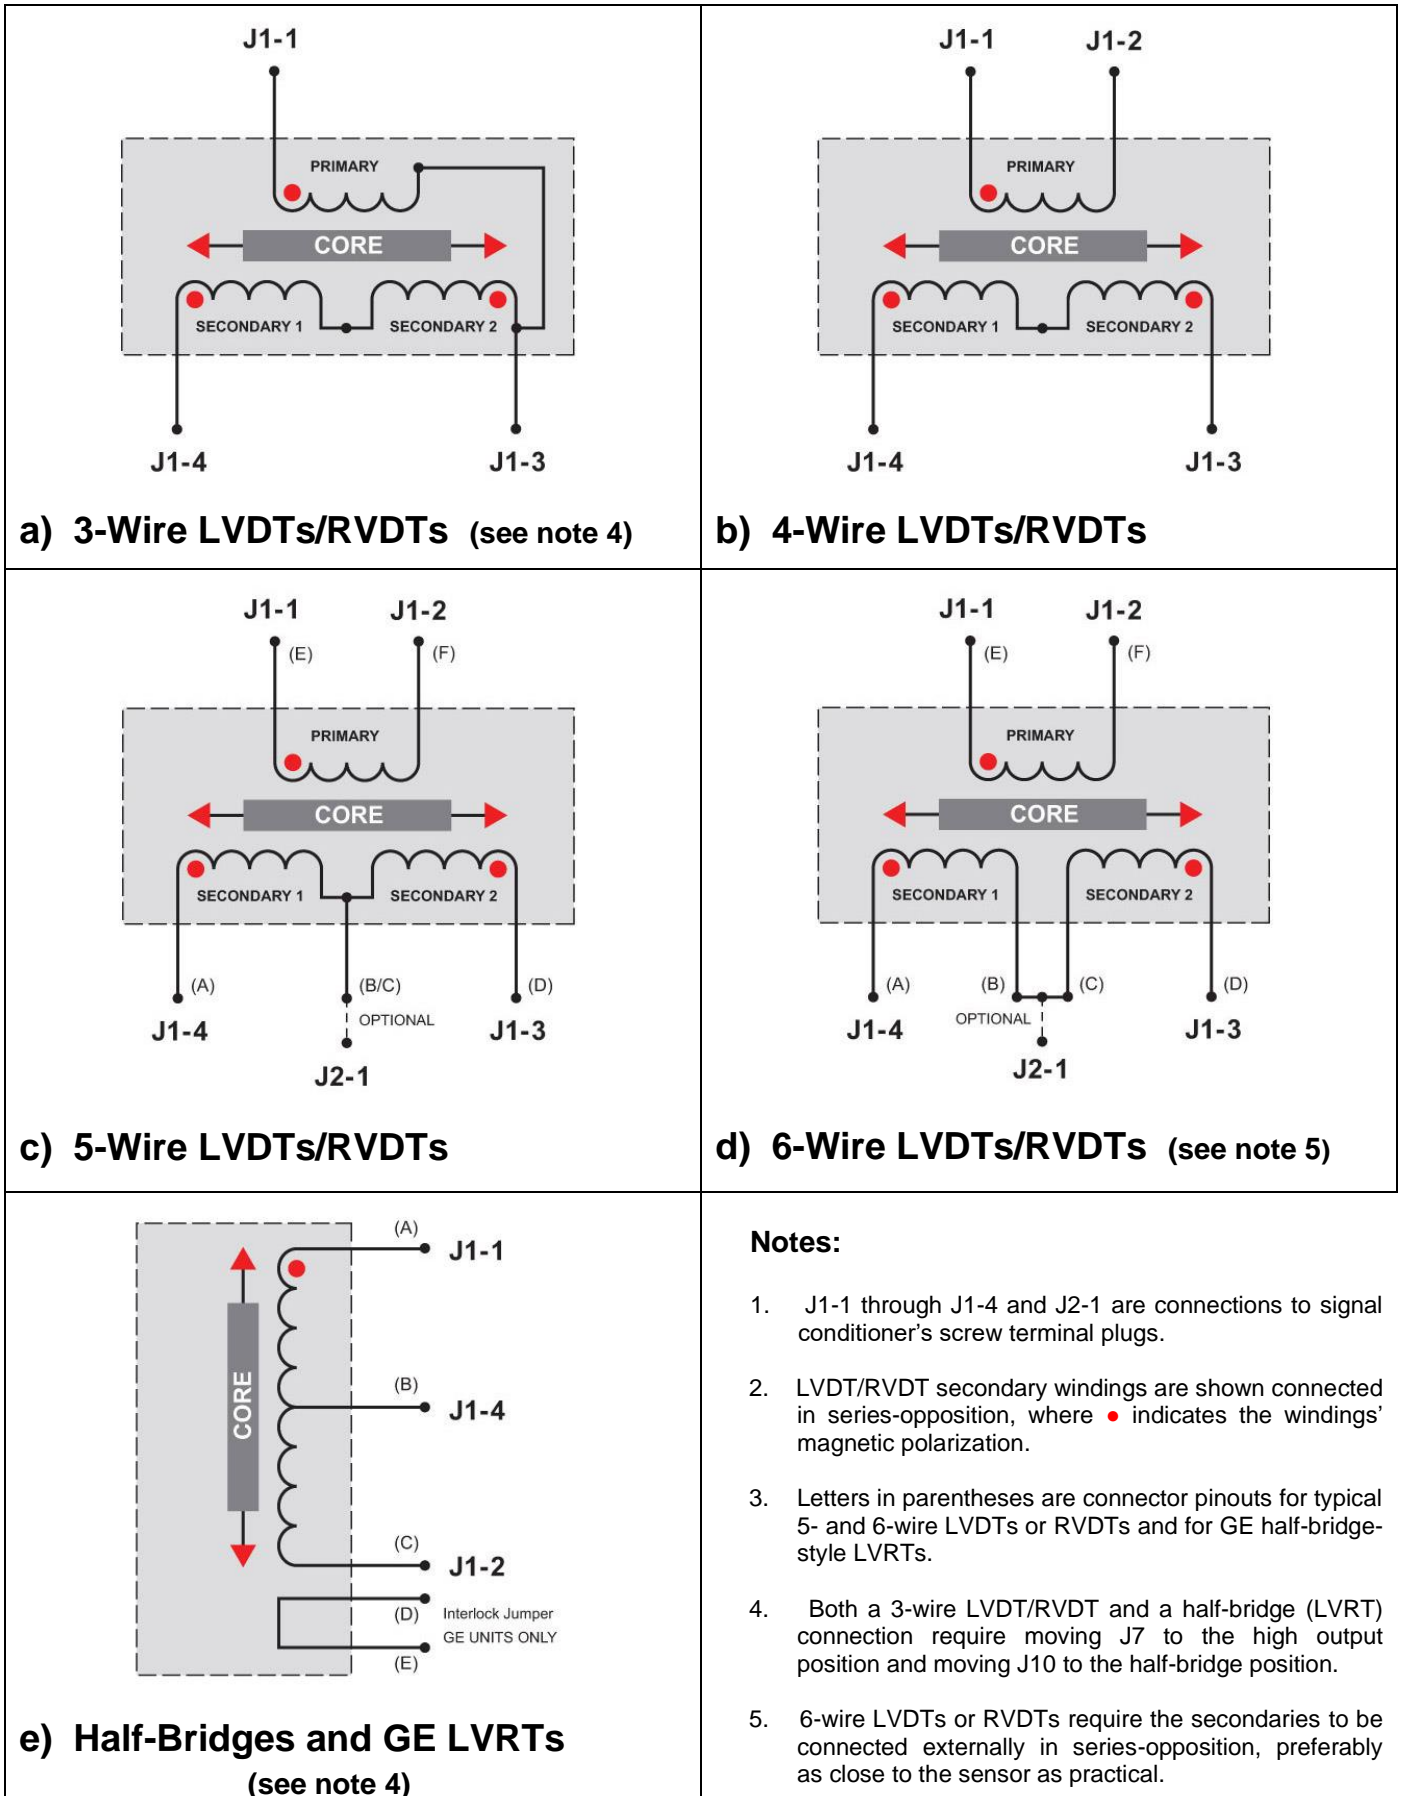

Figure 4 LVDT or RVDT and Half-Bridge (LVRT) Wiring Connections to SC-200 Signal Conditioner
4. Make the I/O connections: Following the connections on the right side label or in Table 3 on page 3, and the schematics of Figure 4 on page 4, connect the color-coded screw-terminal plugs at least to the LVDT's primary and secondaries (and the secondaries' junction point if needed), to DC power, and to the input of the PLC, control system, or analog output indicator. Connections to the failure alarm switch or the master/slave bus can also be made at this time. When finished, insert the colored plugs completely back into the corresponding colored jacks on the module.